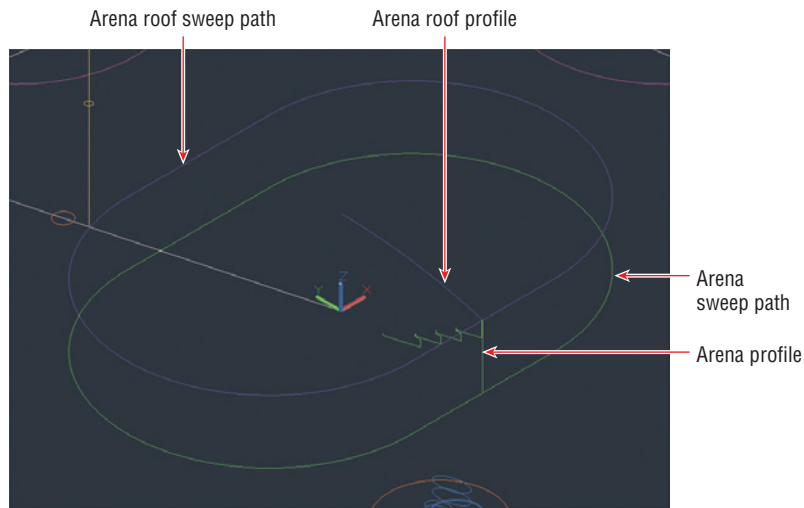
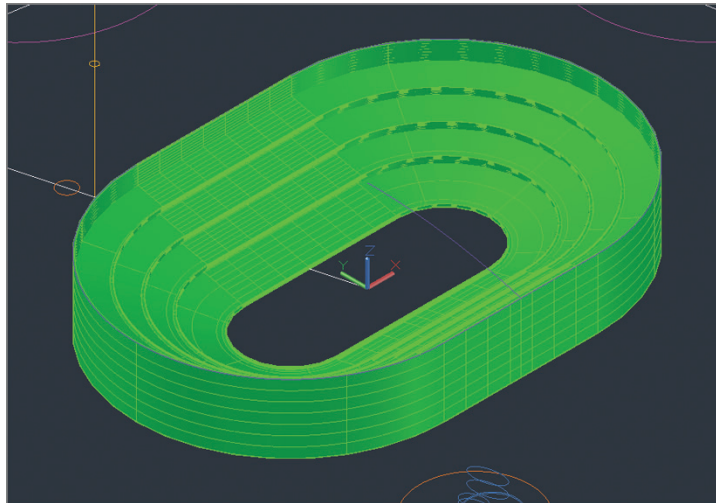

FIGURE 17.4 Profiles and sweep paths representing the O2 Arena
FIGURE 17.5 Arena created by sweeping a profile along a path
- 1. Select the Sweep tool on the Create panel of the ribbon’s Surface tab. Select the green arena profile shown in Figure 17.4 and press Enter.
Select the arena sweep path as shown in Figure 17.4. Figure 17.5 shows the resulting 3D arena.